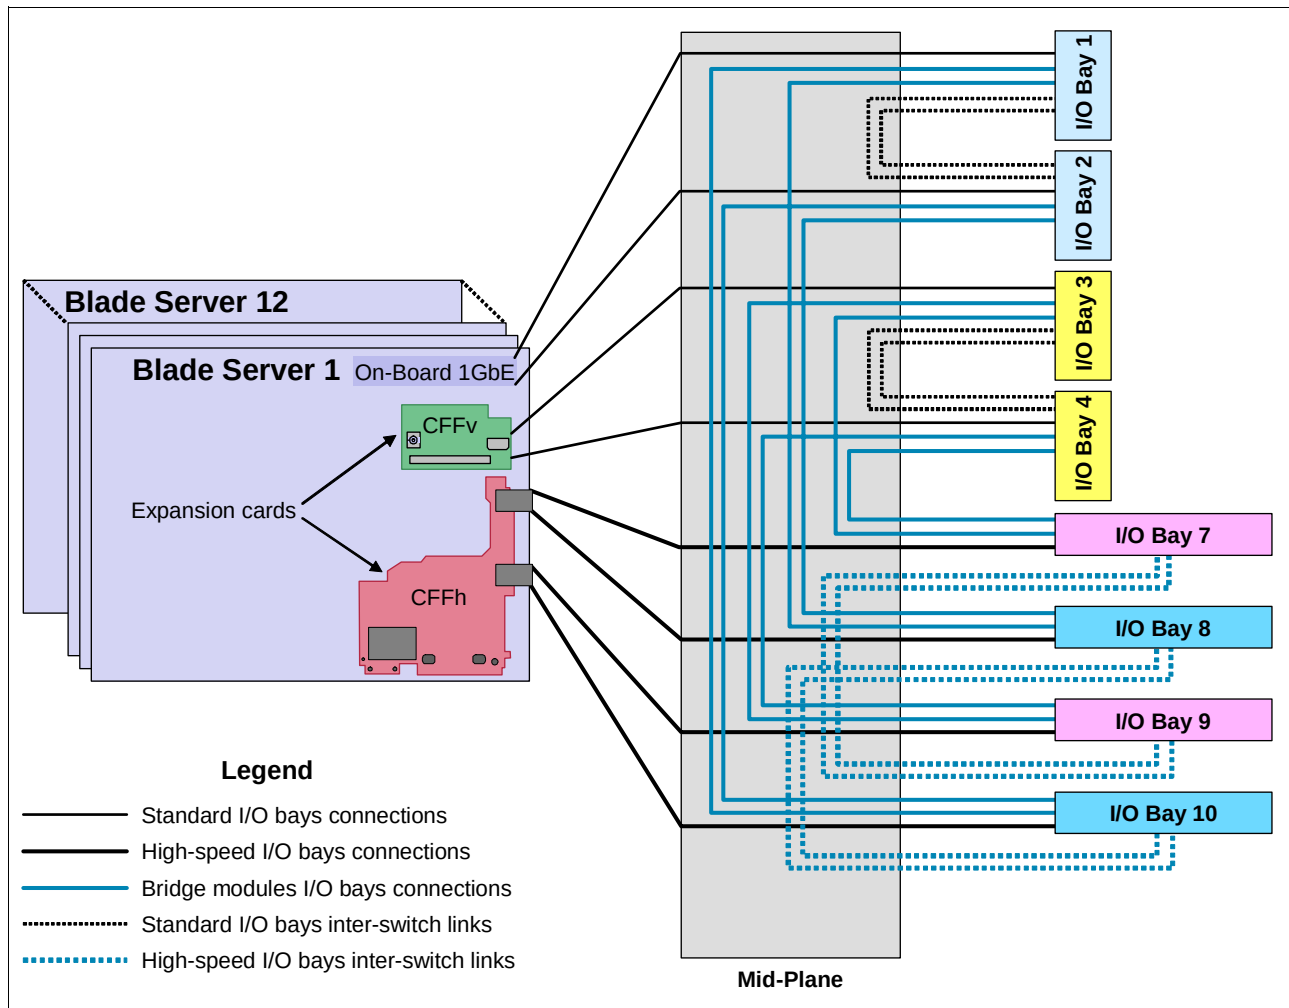

Figure 2-4 IBM BladeCenter HT I/O topology
IBM BladeCenter HT chassis has a total of eight I/O bays (see Figure 1-8 on page 18). Each blade bay has a total of eight dedicated connection paths to the I/O modules (see Figure 2-4).
- ▶ I/O bays 1 and 2 are connected to high-speed I/O bays 8 and 10 in a redundant manner, and bays 3 and 4 are connected to bays 7 and 9 in a redundant manner (see Figure 2-4).